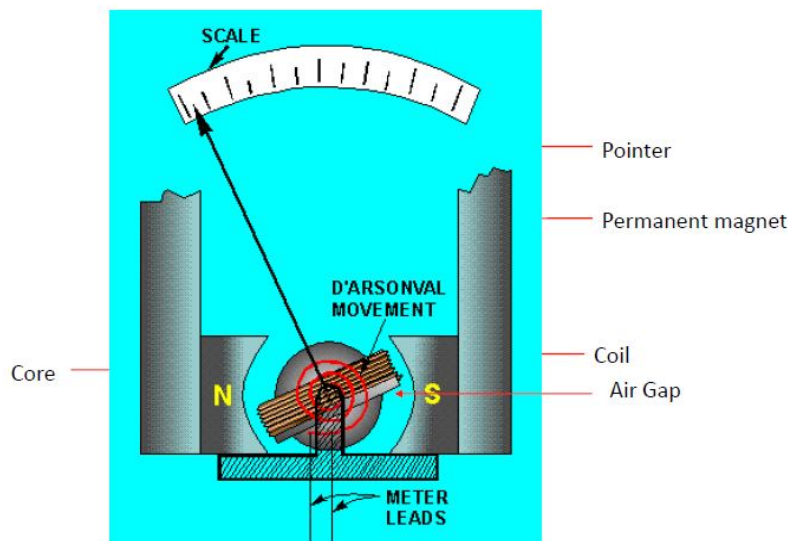

Figure 2.1: Modern D'Arsonval Movement
- Basic construction of modern PMMC can be seen in Figure 2.1.